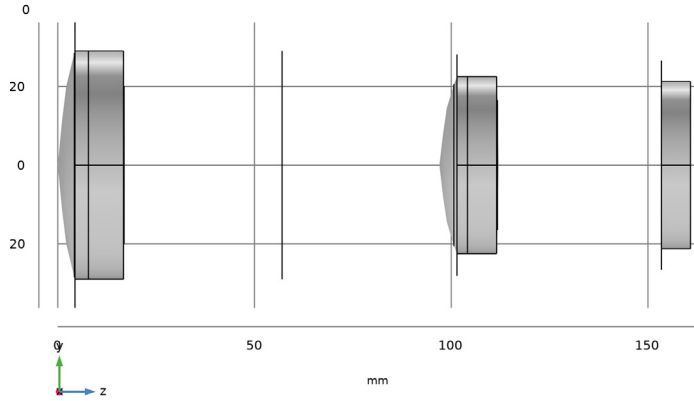
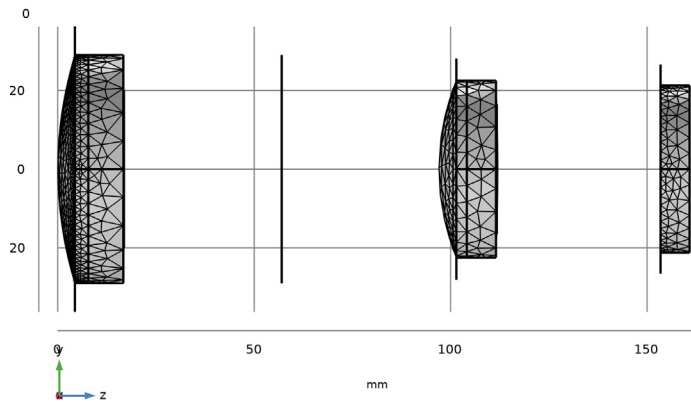

Figure 2: The Petzval lens geometry sequence.
Figure 3: The Petzval lens mesh.
It is important to appreciate that the ray tracing method used by the Geometrical Optics interface is inherently non-sequential, so the same result could be obtained by placing part instances within the geometry in any order. In order to limit the rays to those that reach the focal plane, additional aperture stops and obstructions are added to the geometry. These items can also be placed by using the predefined work planes from each of the lens part instances. The Petzval lens geometry sequence is shown in Figure 2 and the mesh can be seen in Figure 3.
- 9 In the **Graphics** window toolbar, click  next to  **Go to Default View**, then choose **Go to ZY View**. This will orient the view to place the optical axis (z -axis) horizontal and the y -axis vertical. Compare the resulting geometry to Figure 2.